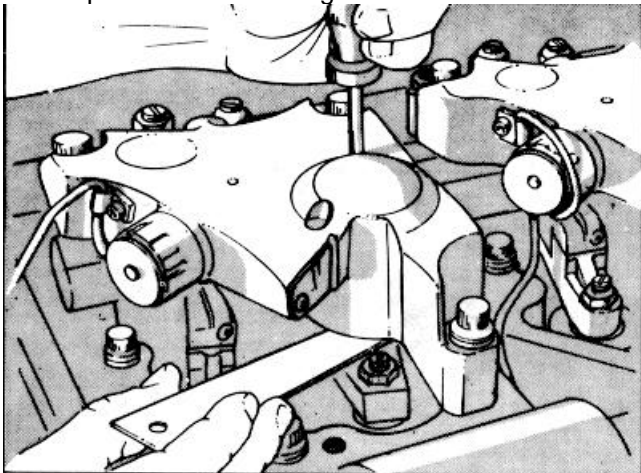

Fig 2-55, (OM1063L). Adjusting crosshead to slave piston clearance
9. If Jacobs Brake is used, use 3375012 (0.018 inch [0.46 mm] thick) Feeler Gauge and 3375008 Torque Wrench Adapter, set the exhaust valve crosshead to Jacobs Brake slave piston clearance. Fig. 2-55.